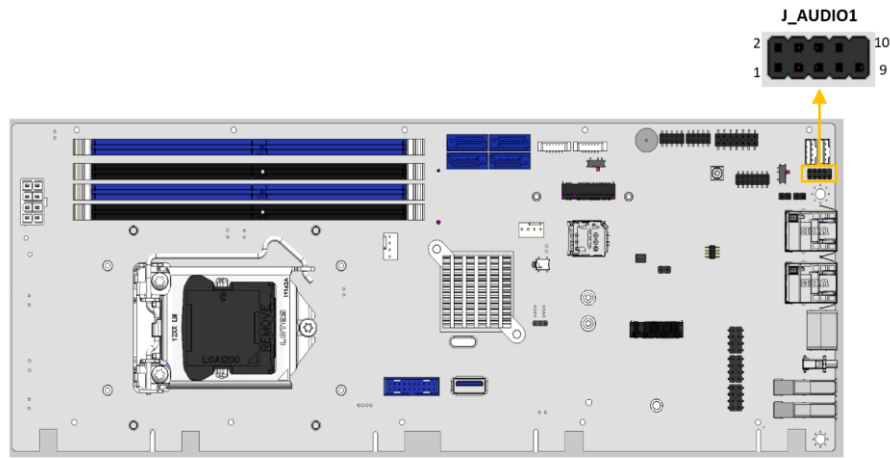

Figure 3-9: Audio Connector Location
- CN Location:** See Figure 3-9